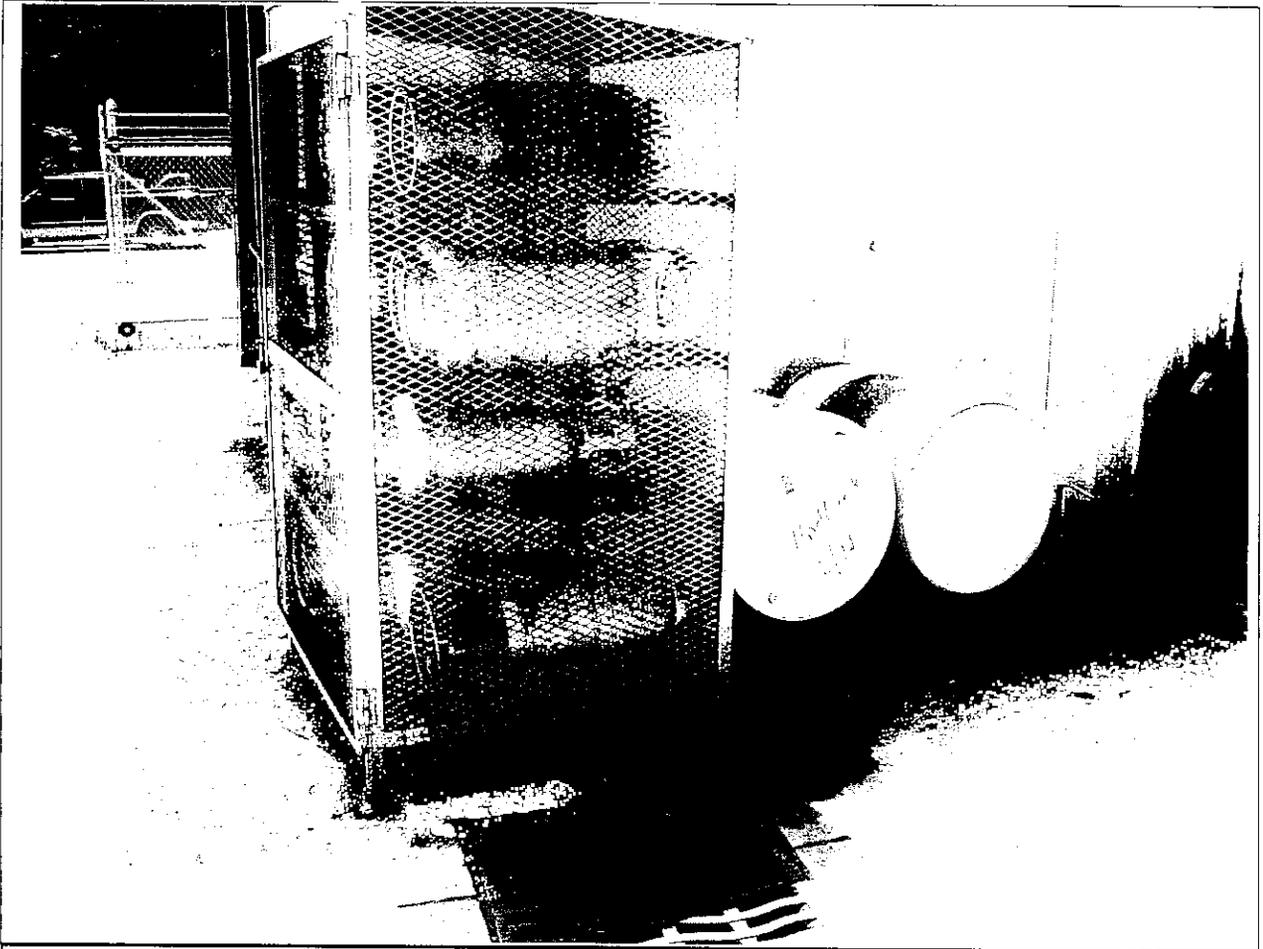

Figure 1: Fluids from the drum storage area leaking into the storm sewer.
1. While walking around the outside of the building I noticed a few areas of concern. Fluids were leaking from the drum storage area into the nearby storm sewer. The drums stored outside should be moved inside or into secondary containment with a cover to prevent chemicals from entering storm sewers. If possible, all drums should be moved away from storm drains. Figure 1 shows the fluid draining into the storm sewer.